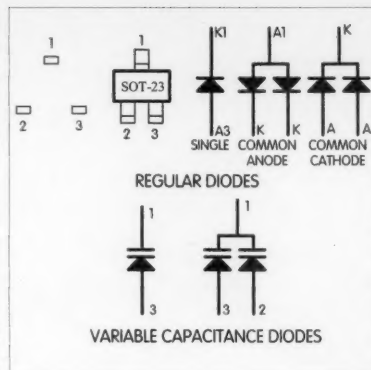

Fig. 4. The fixed diode terminals are listed as numbers and more than one diode may be found in one chip.
transistors. The SMD diode can be identified by two alphabet letters or numbers. You might find one or two fixed diodes in one chip (Fig. 4). Only two terminals are used with one fixed diode, while all three terminals are used with two diodes in one SOT-23 chip. These diodes can be purchased in one (1), 10, and 100 lot pricing.